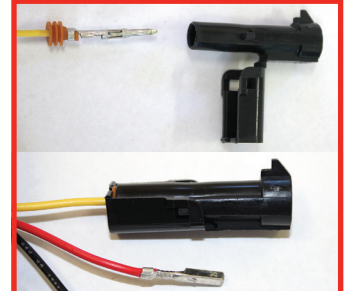

Fig. 7
5. Insert the third wire in the fuse box harness into the smaller diameter end of the 1-pin connector. The water seal should be fully seated into the connector. See Fig. 7. Rotate the locking feature of the connector until it secures the terminal in the connector.